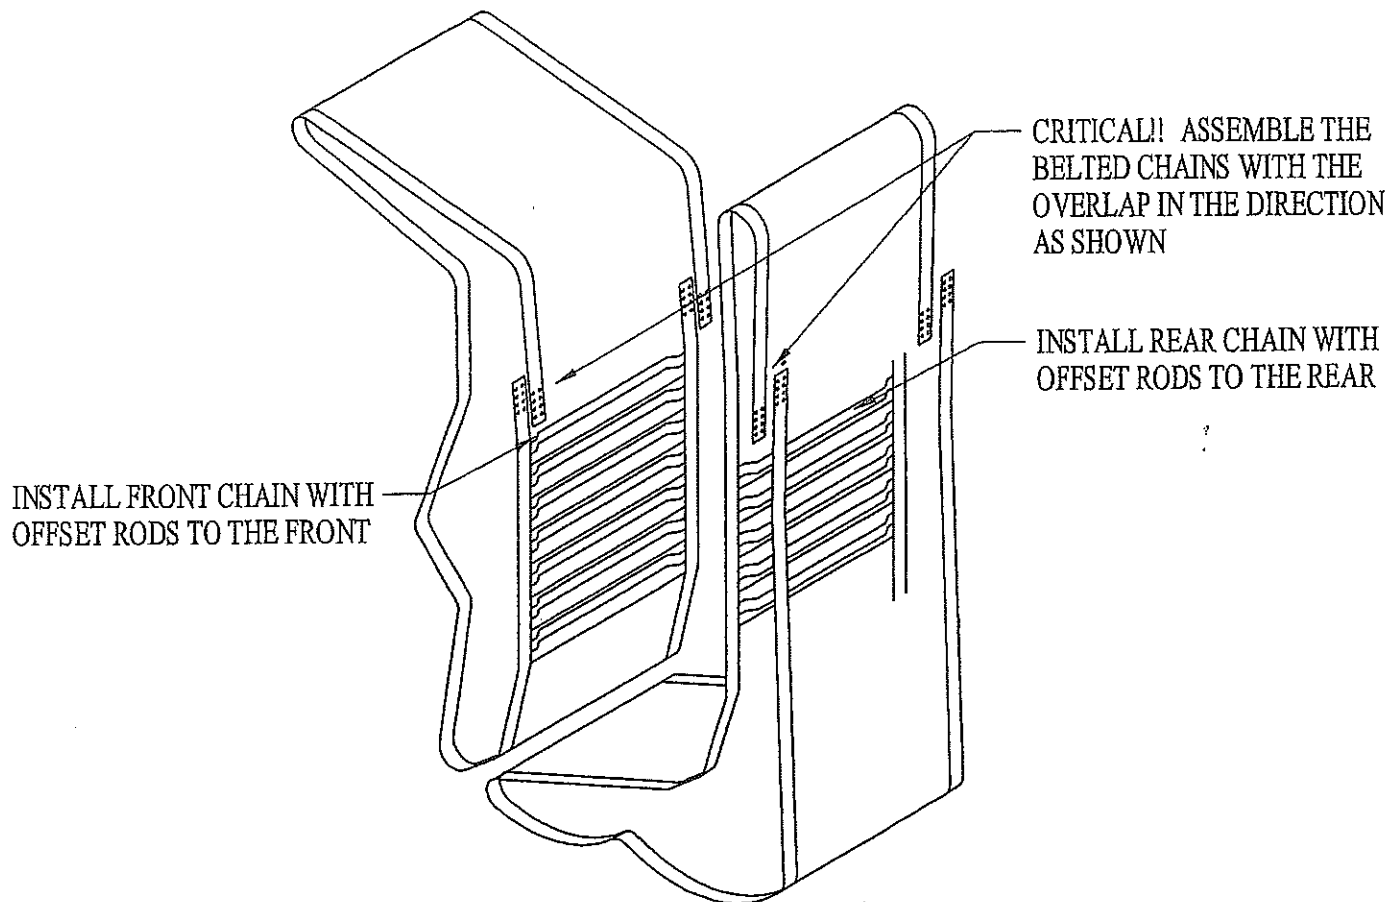

FIGURE 4
Step 7: Wrap the lower end of the rear belted chain around the rollers as shown in Figure #5, pg. 14, or the decal on the side elevator panel. Attach the ends of the belts along with the chain rods and backing clamps furnished, **being sure that the overlap connection is in the direction illustrated in Figure 4.** Tighten the lock nuts on the bolts until they are snug and secure. Be sure lock nuts are used with the bolts (**Do Not Use Elastic Stop Nuts!**).